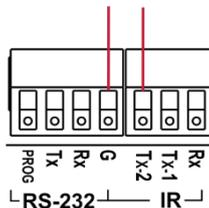

Figure 8: Connecting IR Emitter – Wide-Range Modulated
- Connect the emitter wires to the WP-789T IR terminal block as illustrated in Figure 8.